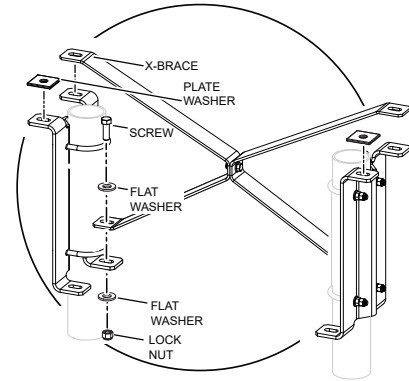

Figure 8. Securing X-Brace to Brackets
5. Secure X-Brace to brackets using screws (2), flat washers (8), and lock nuts (8). See Figure 8.
6. Align and place plate washer on remaining two bracket mounting locations. See Figure 8.